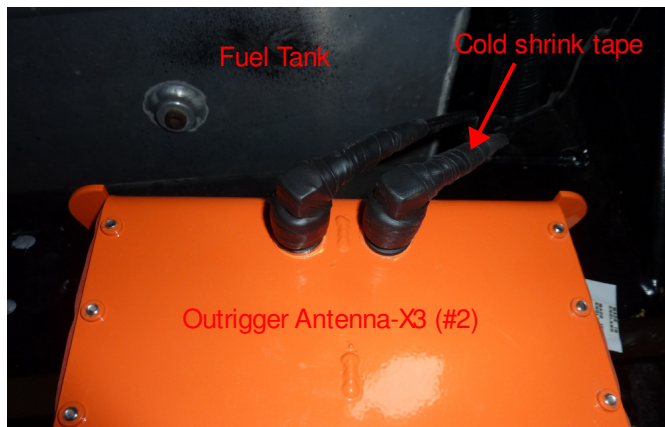

Figure 13: Outrigger Antenna with N-type connectors attached and wrapped with cold shrink tape (not yet mounted)
10. Attach the Type-N connectors on the antenna cables to the outrigger antenna and tighten to 15 in-lbs of torque, angling the connectors slightly for easier routing. Wrap each connector with the supplied Cold Shrink Black Tape (#6), a.k.a. vulcanizing tape, to sufficiently cover the connector junction, as seen in figure 13. This acts as a moisture and temperature barrier at this interconnect.